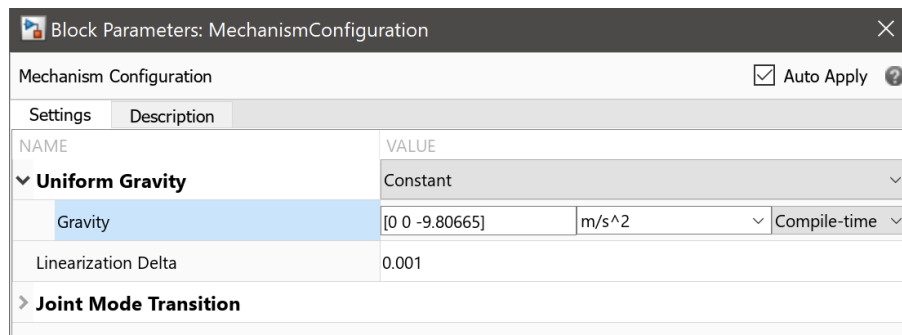

Figure 5: Mechanism Configuration Gravity Parameter
6. Within the HEBI Arm Block Diagram, open the Mechanism configuration block. Redefine the Gravity parameter matrix to place earth gravity in the -Z direction as shown in figure 5.